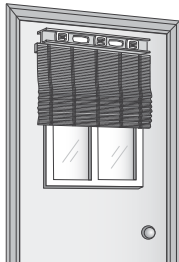

figure 8
3. Locate the pre-drilled holes in the headrail. An "Install Here" label will mark hole locations if headrail is fabric wrapped. Use a level to ensure it is positioned squarely (*figure 8*).